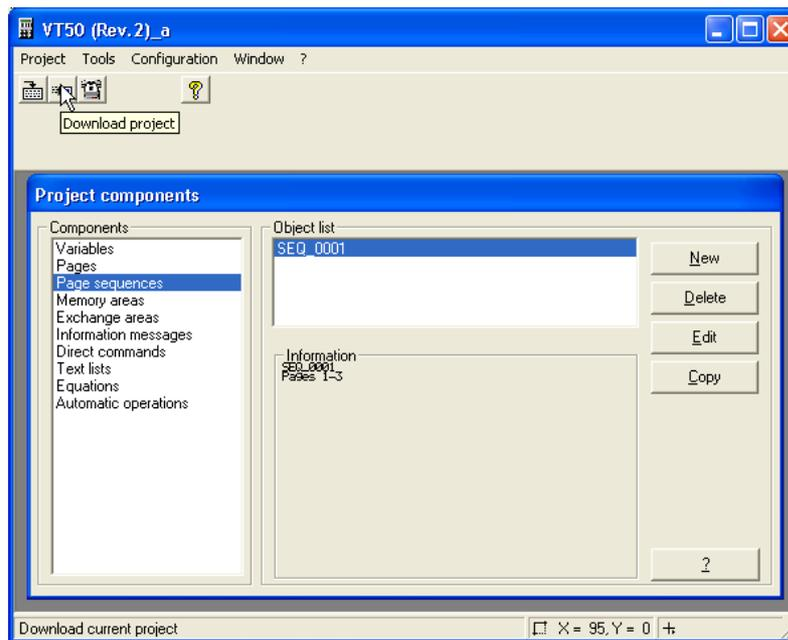

Fig. 37.
3.33 After the project is compiled, it needs to be downloaded to the HMI. To do that click on the *Download project* icon from the main menu as shown in Fig. 37.